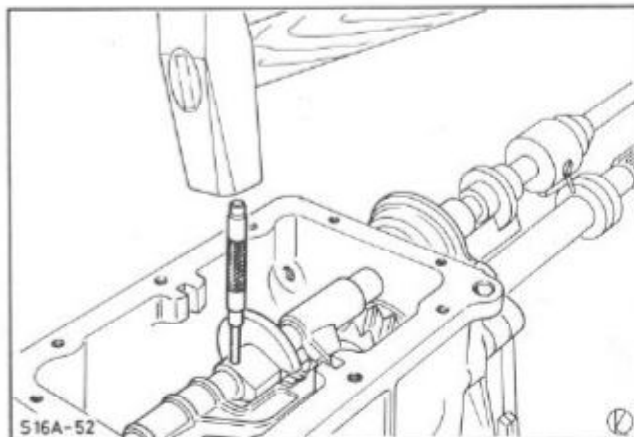

Fig.2. Drive out roll pin
8. Drive roll pin out of reverse gear selector arm pin assembly and shift rod as shown in Fig.2, taking care not to drop it inside the transmission case.